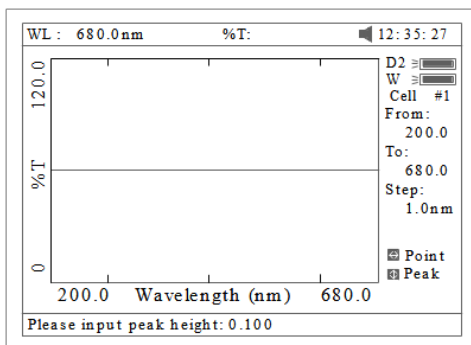
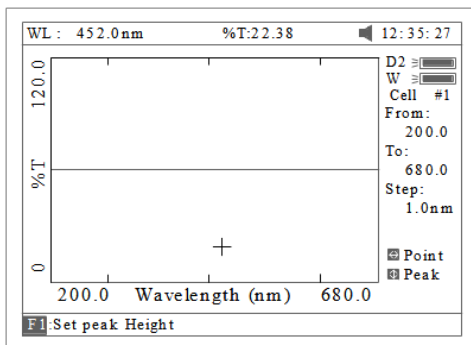

Fig 50
Fig 51
1. Peak to peak, press **【F1】** to set "peak height" and input value by pressing the numeric keypad (Fig 50). Press **【^】** to search the peak from left to right and press **【v】** to search from right to left. The value of every peak found will be displayed on the screen one at a time (Fig 51).